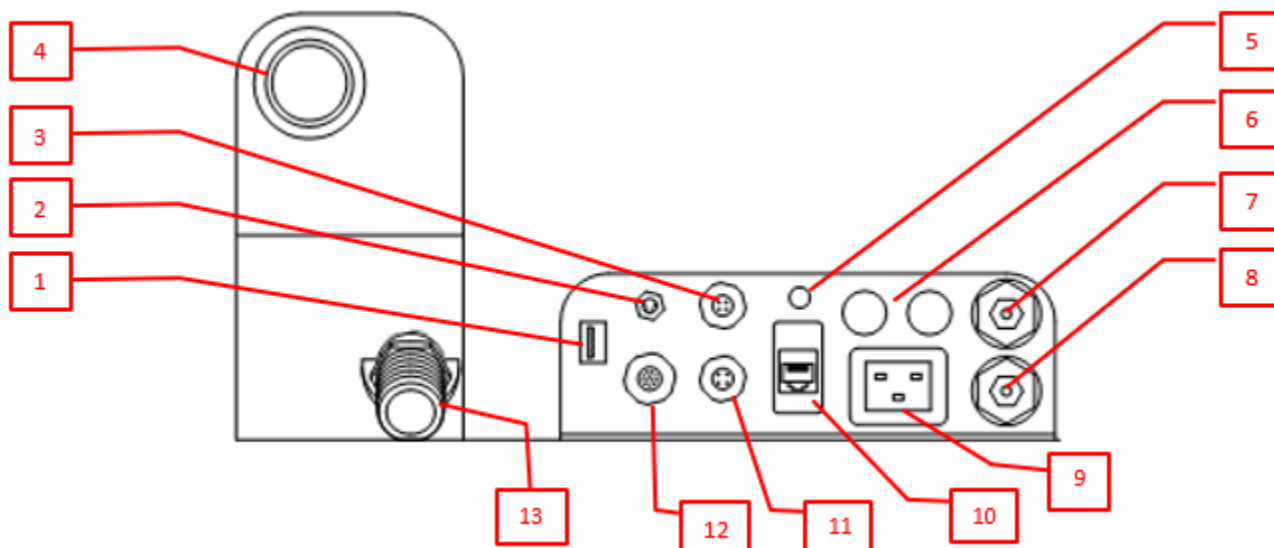

Figure 4: Cee® Apogee® 450 Spin Developer Facilities Connections
3. Connect utilities per the reference diagram in *Figure 4: Cee® Apogee® 450 Spin Developer Facilities Connections*.